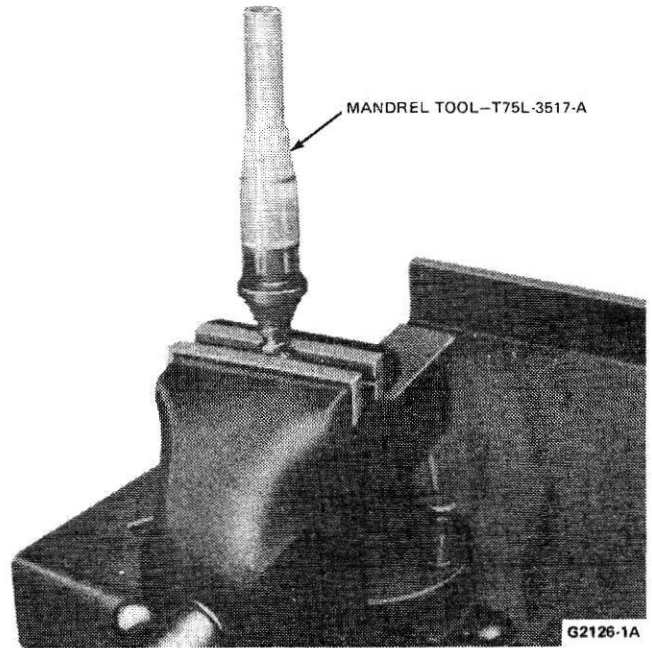

FIG. 15 Mandrel Installed on Sleeve
3. Install mandrel Tool T75L-3517-A1 over the sleeve; slide one valve sleeve ring over the tool (Fig. 15).